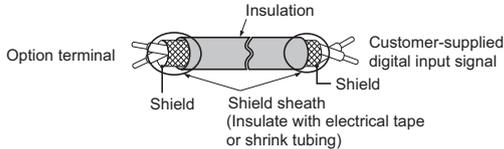
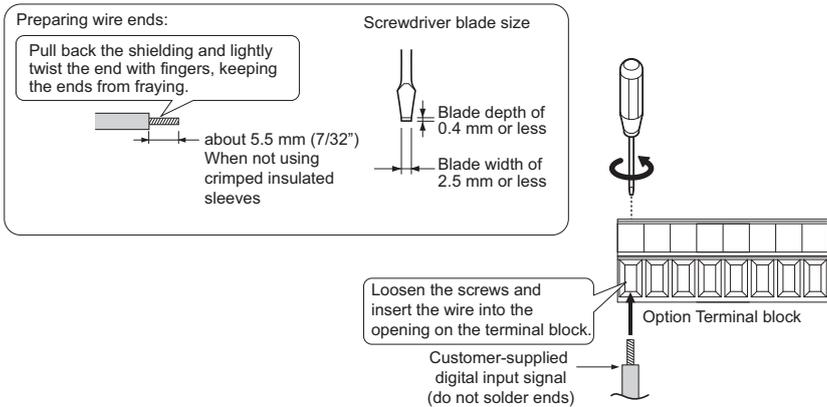

Figure 6 Preparing Ends of Shielded Cable
Figure 7 Preparing and Connecting Cable Wiring
4. Prepare and connect the wire ends as shown in **Figure 6** and **Figure 7**. Refer to **Wire Gauges, Tightening Torques, and Crimp Terminals on page 21** to confirm that the proper tightening torque is applied to each terminal. Take particular precaution to ensure that each wire is properly connected and wire insulation is not accidentally pinched into electrical terminals.